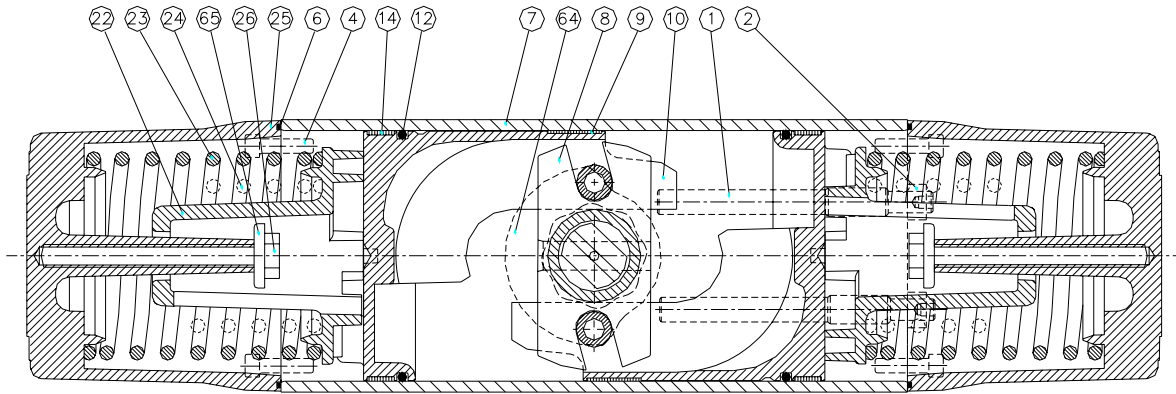

Fig. 3 RC265-SR from above
The SR actuators have the pistons turned (rotated) 180° in relation to the DA actuators according to figure 3 on page 3. This gives an increase of the torque towards the end of the rotary motion, although the spring force is diminished.
4. Mount the pistons according to Fig 3 above.
5. The SR units must be turned so that one of the three support points locates between the bosses on the piston (10).
7. The spring guide (22) is centered towards the piston with the aid of 2 pins.
8. Fit the screws (4). When tightening the screws, the spring force is transmitted from the tensioning screw (26) to these screws. **Tightening torques according to table on page 4.**
3. Unscrew the adjustment screws (1, figure 3) so that they don't obstruct the shaft (15) movement.
4. Check that the shaft is in closed (fail close) or open (fail open) position, i.e. the springs have pressed the pistons (10) into their inner position.
5. Turn the handwheel so that the yellow indication ring (67) moves towards the actuator. Turn until it stops. The indication ring can now be seen through the plastic tube (49) through the inner part of the window.
7. Turn back the handwheel until the indication ring has passed "AUTO"-position and there is resistance. This unloads the retaining screws (4, figure 3) in the spring housing from the spring force.